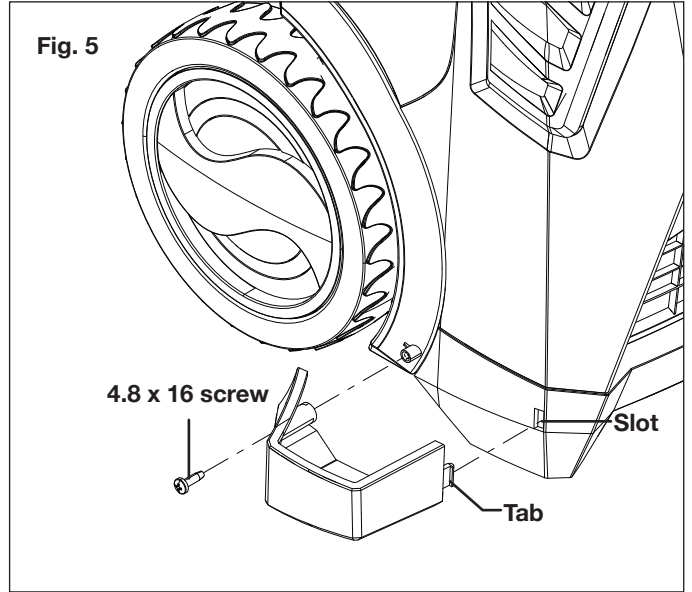

Fig. 5
5. To assemble the spray wand protector, first snap the tab into the slot located at the bottom left side of the unit, and then secure it in place with one 4.8 x 16 screw (Fig. 5).